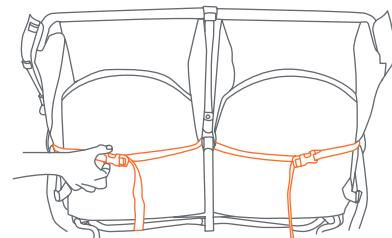
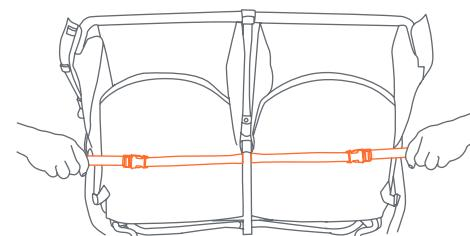

Fig. 9a
Fig. 9b
- 9) • To recline the seat: loosen the strap through the buckle and adjust to the required recline position (Fig. 9a). To place the seat back in a more upright position, press upward on the seat back with one hand while pulling the strap through the buckle with the other (Fig. 9b).